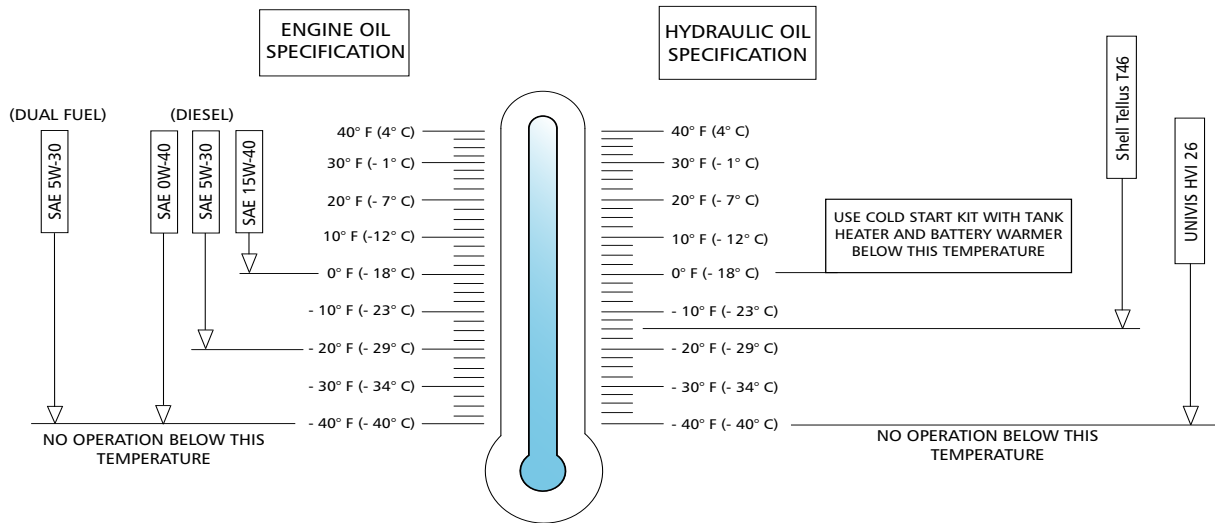

Figure 2-18. Cold Weather Operation Chart
- Refer to the cold weather operation chart (Figure 2-18) to assist in operating the aerial platform in cold weather conditions.